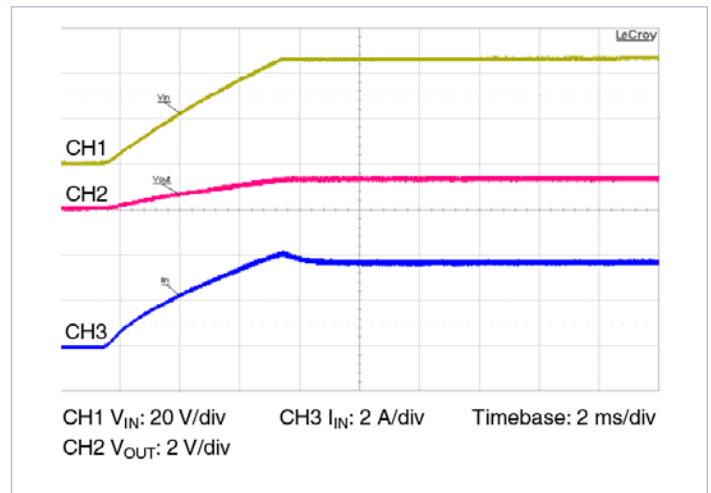

Figure 10 — Start up from application of V_{IN} ; VC pre-applied $C_{OUT} = 64400\mu F$
- Normal operation (VC applied prior to V_{IN}): In this case the controller is active prior to ramping the input. When the input voltage is applied, the VTM module output voltage will track the input (See Figure 10). The inrush current is determined by the input voltage rate of rise and output capacitance. If the VC voltage is removed prior to the input reaching 26V, the VTM may shut down.